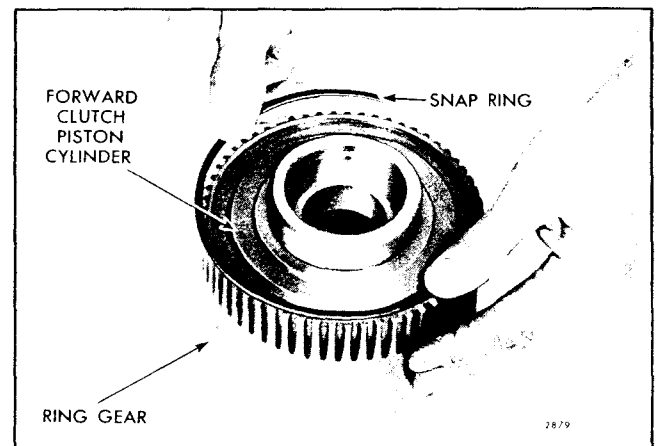

Fig. 62 - Installing Forward Clutch Piston Cylinder Snap Ring in Ring Gear
- n. Place the ring gear and forward clutch assembly on a bench, with the forward clutch piston cylinder end facing up; then, install the snap ring in the groove inside the ring gear next to the piston cylinder as shown in Fig. 62.
**NOTE:** The forward clutch piston cylinder snap ring shown in Fig. 62 is .074" -.078" thick and has a free diameter of 5-7/8" + 1/16" and is only used at this location to retain the forward clutch piston cylinder in the ring gear.